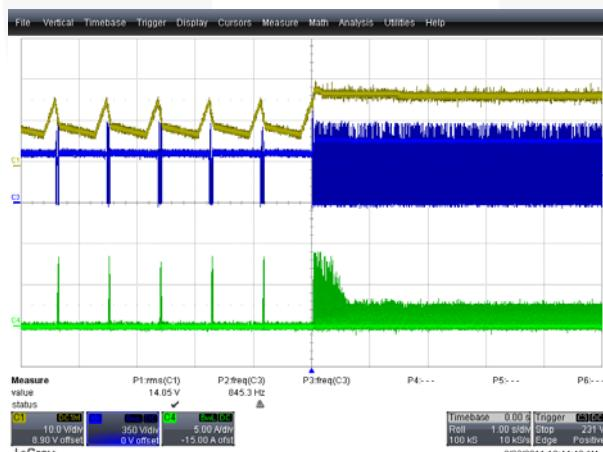
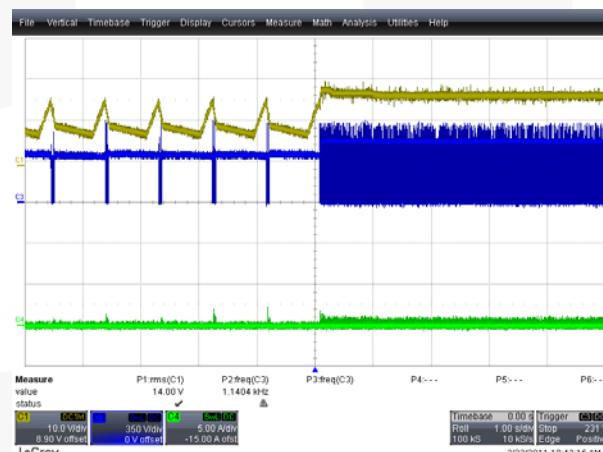

Figure 45. 90 V_{AC} / 60 Hz, CH1 (Yellow): $V_{CC(QR)}$,
Figure 46. 277 V_{AC} / 60 Hz, CH1 (Yellow):
Figure 45 and Figure 46 show the V_{DS} and I_{DS} waveforms of the MOSFET (QR) when short circuits at output load were removed.